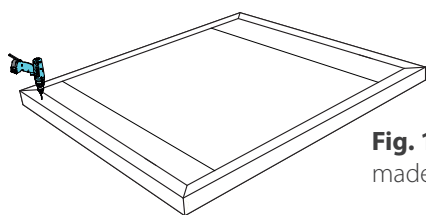

Fig. 151. Drill the profiles made of PVC.
3. Drill some holes in order to insert the rivets with a drill bit  $\varnothing 5$  mm (Fig. 151, 152)